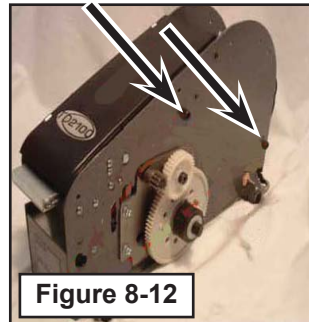

Figure 8-12
3. Loosen screws in coder bar and dead roller (Figure 8-12).
4. Remove our (4) screws from front cover.